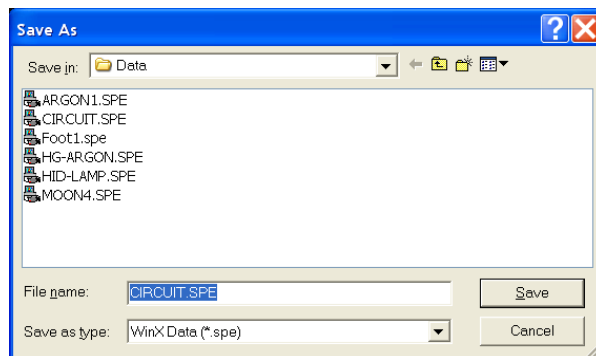

Figure 32. Data File Save As dialog
1. Select **Save As** from the **File** menu. The **Data File Save As** dialog (Figure 32) appears.